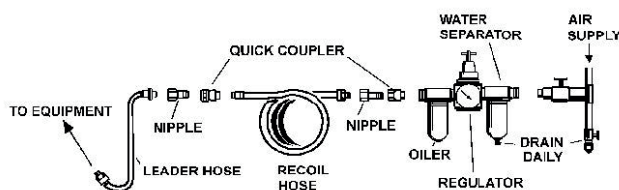

fig. 1
- Recommended hook-up procedure is shown in fig. 1.
- Vibration may cause failure if a quick change coupling is connected directly to the wrench. To overcome this, connect a leader hose to the wrench. A quick change coupling may then be used to connect the leader hose to the air line recoil hose. Refer to figs. 1 and 2.